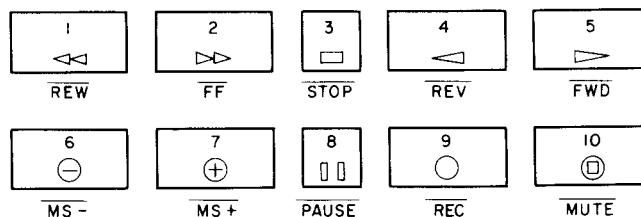

Fig. 12-3-6 Multi-mode key inputs
(1) and (2) differ only in the deck being controlled. The correspondence between (1)/(2) and (3) is shown in Figure 12-3-6.